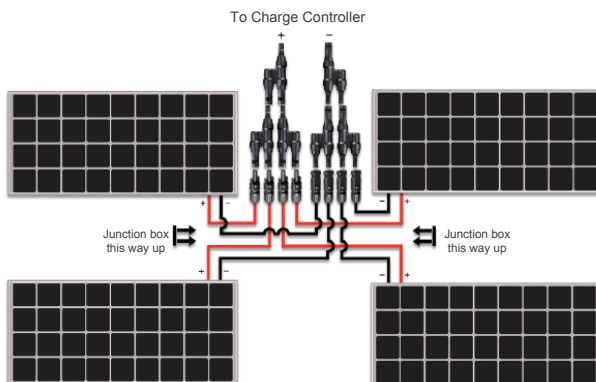

Figure 8.4 Four RNG-100D Panels in parallel
Fig. 8.4 shows the arrangement for connecting four solar panels in parallel. This arrangement is applicable if the solar panels are to be mounted in a 2x2 configuration as shown above. Please note that the positioning of the junction boxes must be followed for the cables to reach the Solar Y Branch Connectors. This connection requires three (3) pairs of Solar Y Branch Connectors. When one or multiple panels are mounted at different locations- that is, separated by a distance, the panels must be extended with Solar Connector Extension Cables (sold separately).